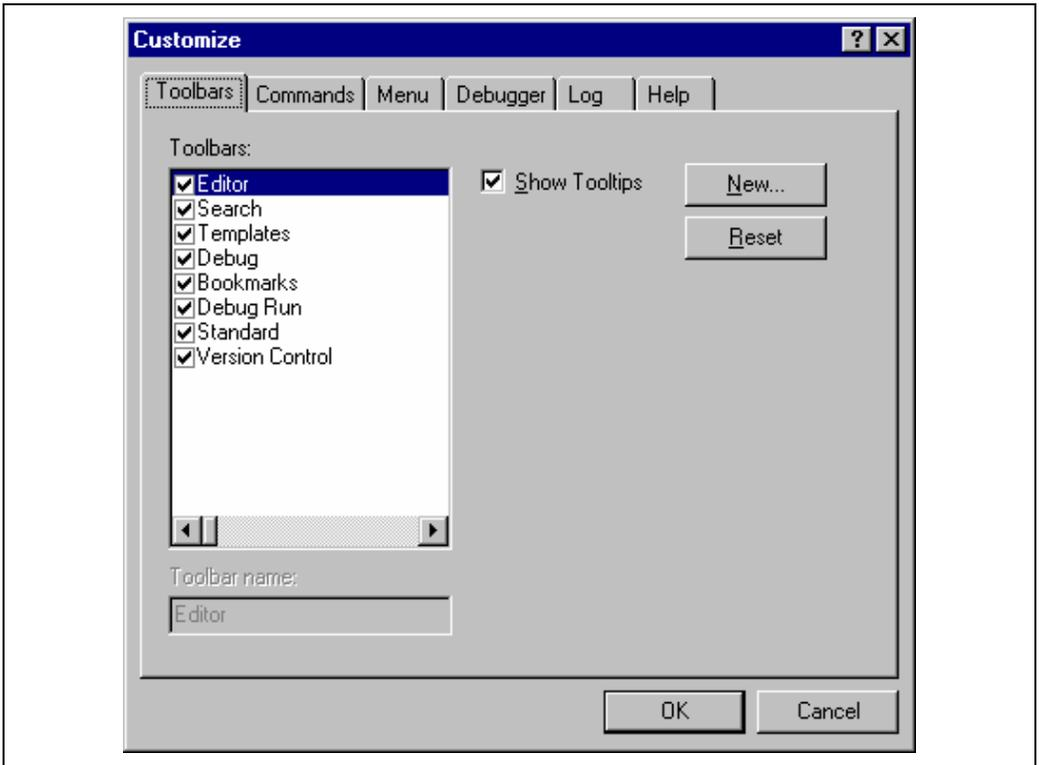
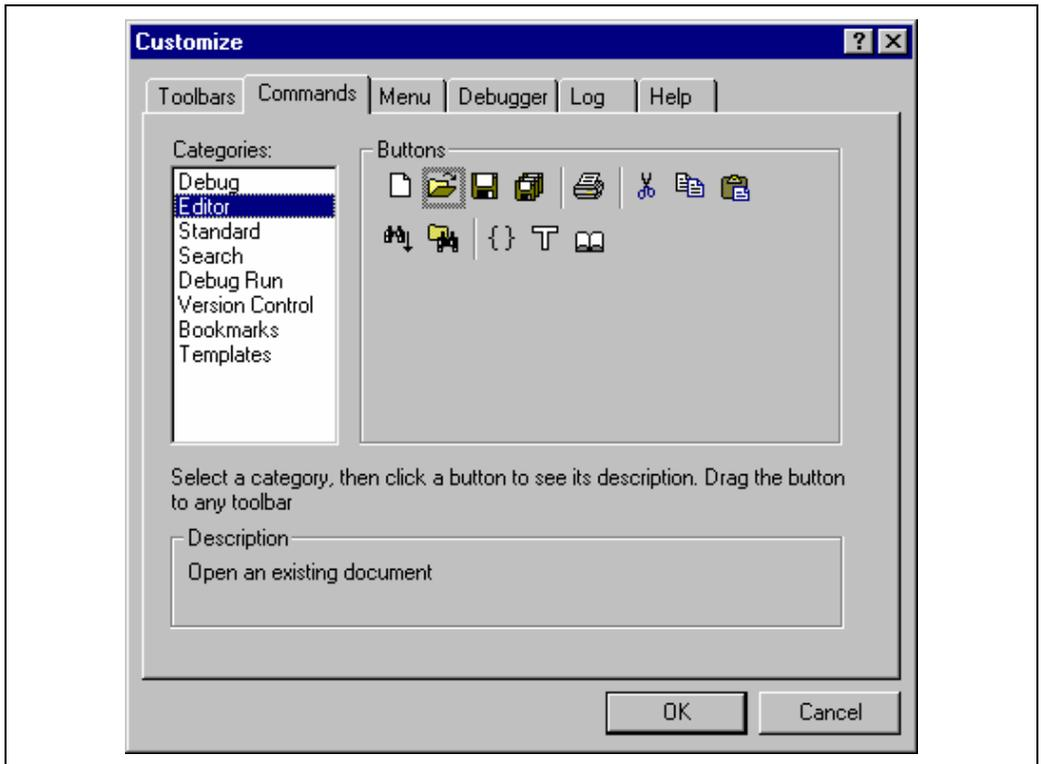
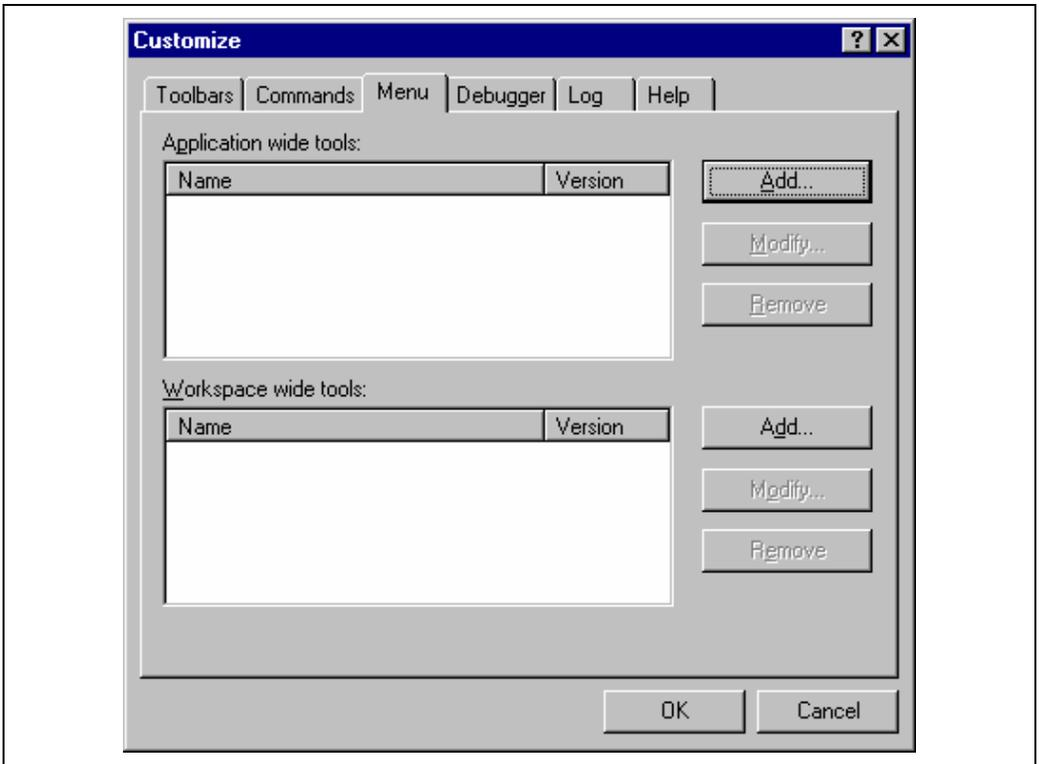
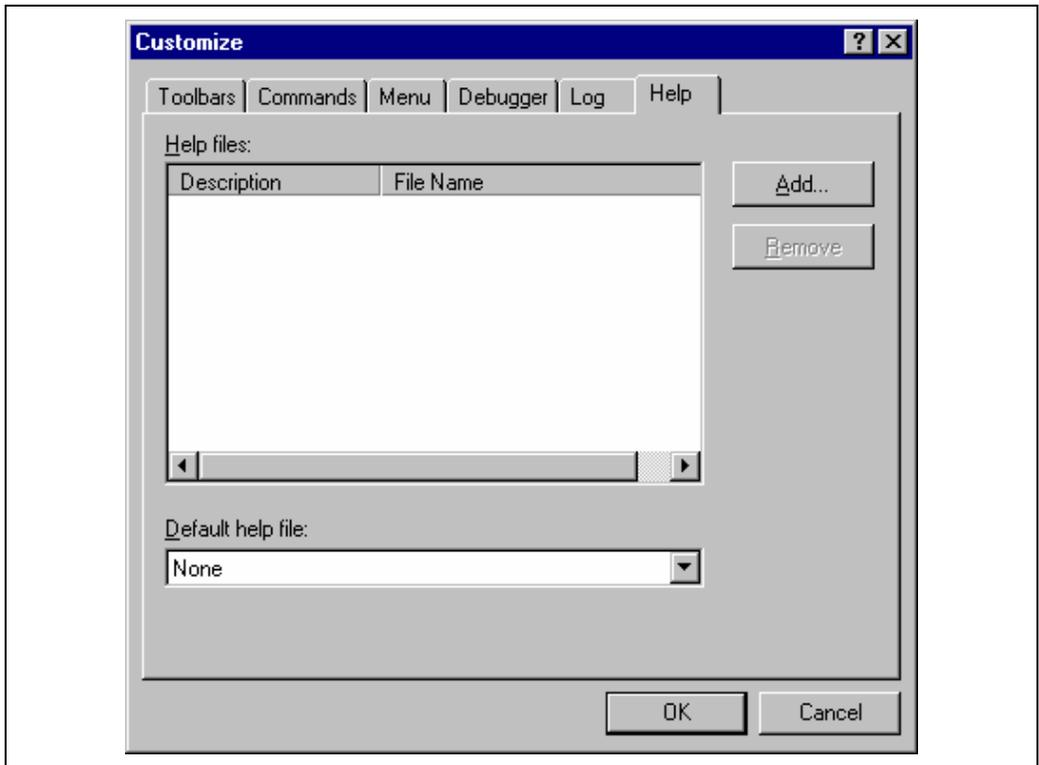

Figure 6.1: Customize Dialog Toolbars Tab
Figure 6.3: Customize Dialog Commands Tab
Figure 6.4: Customize Dialog Menu Tab
Figure 6.7: Customize Dialog Help Tab
The High-performance Embedded Workshop provides 2 standard toolbars as detailed in chapter 1, “*Overview*”. In addition to these, you may also construct your own toolbars via the “Customize” dialog (figure 6.1).
1. Select [**Tools->Customize...**]. The dialog shown in figure 6.1 will be displayed.
1. Select [**Tools->Customize...**]. The dialog shown in figure 6.1 will be displayed. Select the “Commands” tab (see figure 6.3).
2. Select the user-defined toolbar from the “Toolbars” list, and the “Reset” button in figure 6.1 changes to the “Delete” button. Then click the “Delete” button.
1. Select [**Tools->Customize...**]. The dialog shown in figure 6.1 will be displayed. Select the “Menu” tab (see figure 6.4). The first thing for you to decide is whether you are adding a global application wide tool (“Application wide tools:”), which will be available to all of your workspaces. Or whether you wish to add a workspace wide tool (“Workspace wide tool:”), which is only valid for the current workspace. Once you have made the choice choose the relevant section of the dialog.
1. Select [Tools->Customize...]. The dialog shown in figure 6.1 will be displayed. Select the “Menu” tab (see figure 6.4).
1. Select [**Tools->Customize...**]. The dialog shown in figure 6.1 will be displayed. Select the “Menu” tab (see figure 6.4).
1. Select [**Tools->Customize...**]. The dialog shown in figure 6.1 will be displayed. Select the “Help” tab (see figure 6.7).